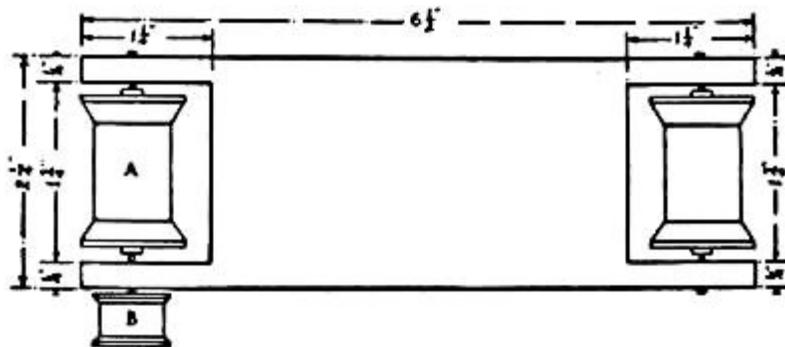

FIG. 377.—Top View of Wooden Frame.
**The Frame** of the automobile, as that is about the simplest way, and makes a light, easy-running vehicle. The bed will be cut of a different pattern, however, as will be seen in Fig. 377. Lay out the piece to the dimensions shown upon this drawing, and then cut it out, making a mortise in each end for the wheels to fit in. The spool wheels should be mounted in the same manner as those of the railway cars, for which see Fig. 359, Chapter XXV, and the directions
upon page 335. One end of spool *A* should be pivoted with a longer finishing nail than those used for the other pivots, so that when driven in place about half an inch will project beyond the frame. A small silk spool should be fastened upon this for a belt-wheel (see *B*, Fig. 377). The hole in one of these spools is about three-sixteenths of an inch in diameter, so, in order to make it fit tightly upon the nail, it is necessary to fill in around the nail with sealing-wax. To do this, turn the wooden frame upon its edge and place the spool over the nail, being careful to get the nail in the exact centre of the hole. Then hold a stick of sealing-wax over the spool, and with a lighted match melt the end and allow it to drip into the hole. When the hole has been partially filled, allow the wax to harden a little, and then press it down around the nail with the end of a match, being careful not to throw the spool out of centre by doing so. The hole should then be filled to the top.
broken out. A small silk spool, such as *B* (Fig. 377), should be fastened upon the small pivot which originally operated the clock's hands, for a belt-wheel. Lay the works upon a table with the face-side down, and, after centring the hole of the spool upon the pivot,